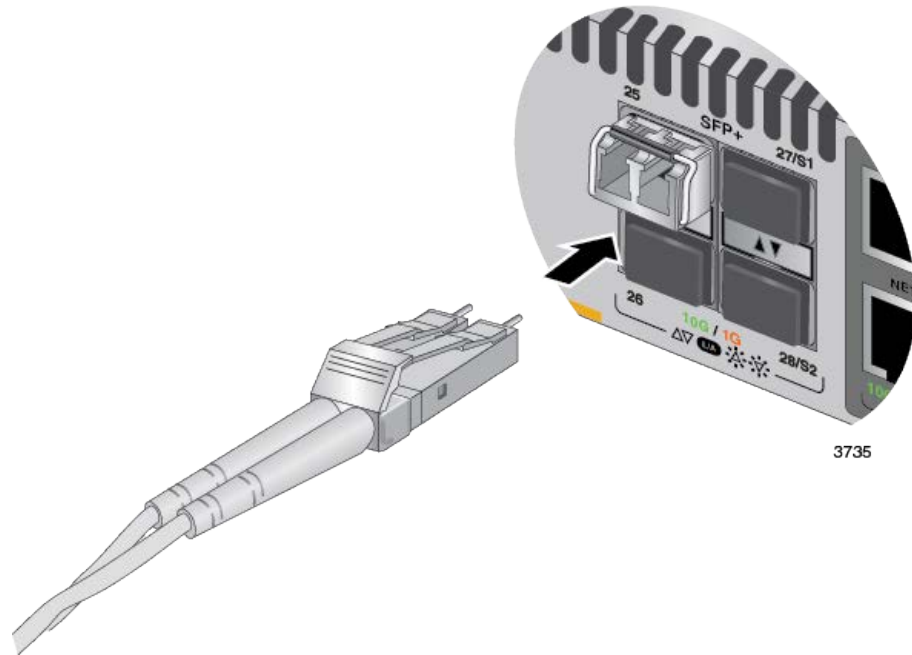

Figure 88. Connecting a Fiber Optic Cable to an SFP or SFP+ Transceiver
7. Connect the fiber optic cable to the transceiver, as shown in Figure 88 on page 191. The connector on the cable should fit snugly into the port, and the tab should lock the connector into place.